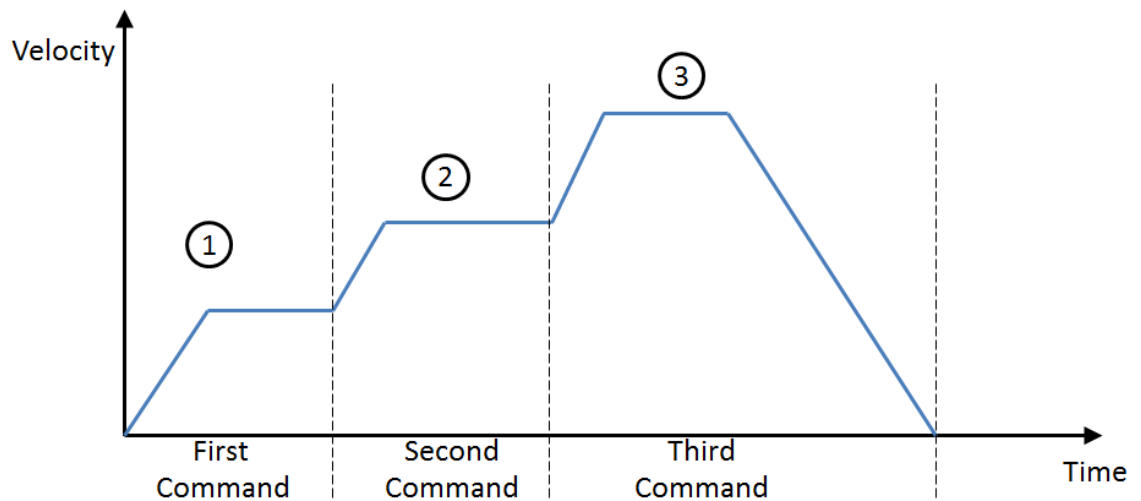
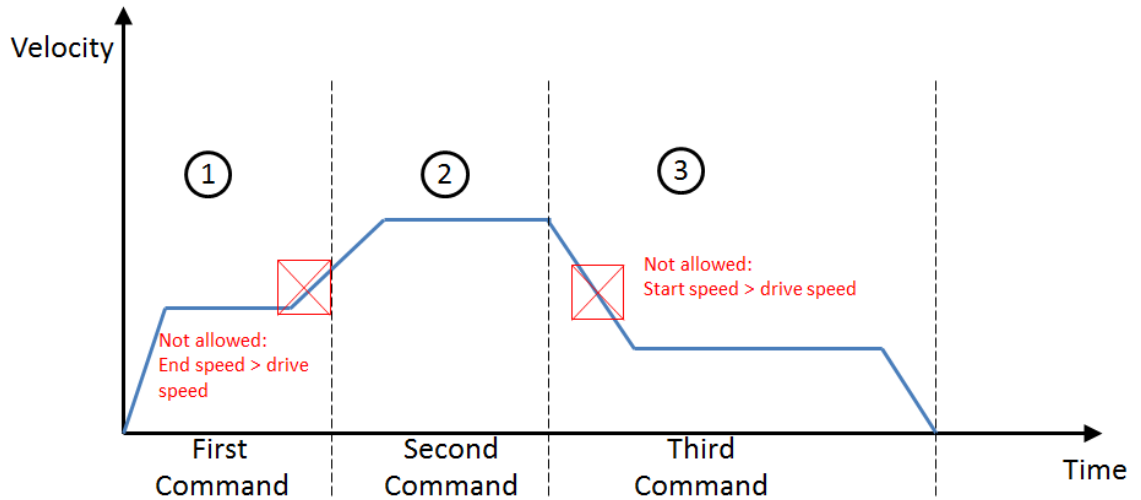

Figure 15: Velocity profile supported in continuous interpolation mode
Figure 16: Velocity profiles which are not supported
- The start and end speed of each command has to be lower or equal to the driving speed (Figure 15). Figure 16 shows velocity profiles which are currently not supported by continuous interpolation mode.